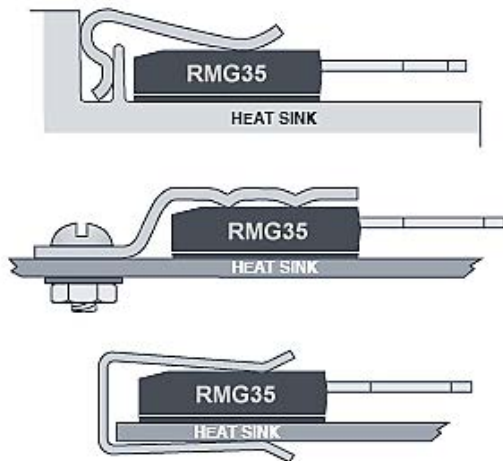

Figure 2 - Spring Clips Mounting Techniques
- Spring Clips are preferred by many designers in place of screw assembly for attaching Token TO-Style Power Resistors to the heat sink. These spring clips are available from several manufacturers which offers a number of standard springs and heat sinks specifically designed for clip mounting TO-220 and TO-247 packages. Spring clips offer many benefits for ease of assembly, but their biggest advantage is the consistent application of optimum force over the center of the power resistor (as shown in Figure 2).